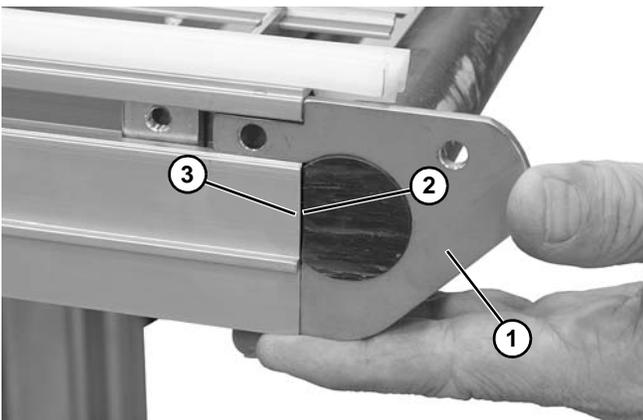

Figure 83
- When re-installing idler tail (**Figure 83, item 1**) with wear bar, make sure that the flat end (**Figure 83, item 2**) of the wear bar is flush against the conveyor (**Figure 83, item 3**).